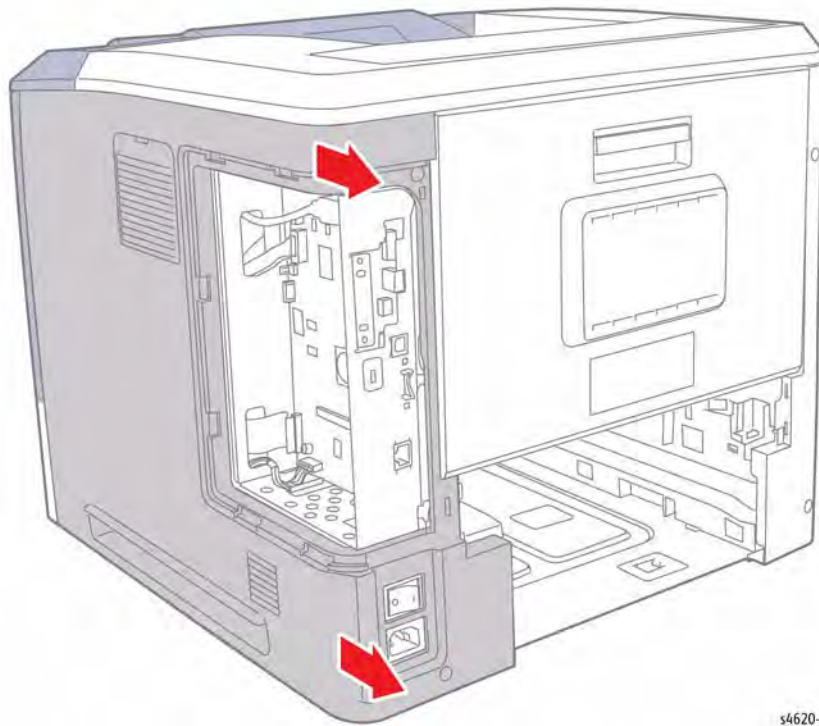

Figure 1 Remove the Right Cover
4. Slide the cover to the rear to release 6 hooks to remove the cover, Figure 1.